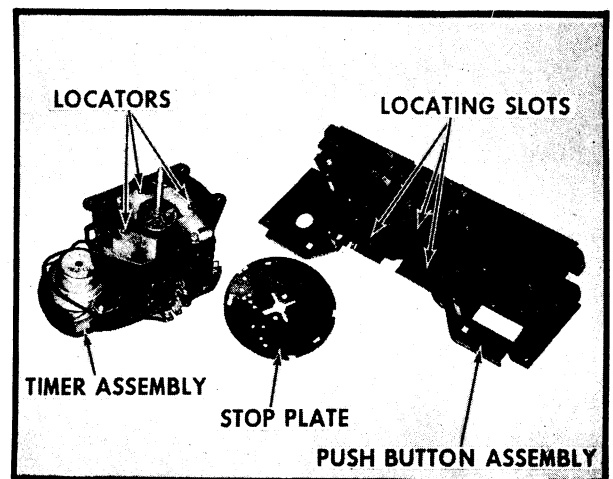

Figure 18
2. Align locator slots shown in *Figure 18* and secure timer to mechanism with four screws. Do not tighten. Rotate the timer counterclockwise (rear view) as far as possible and tighten one screw.